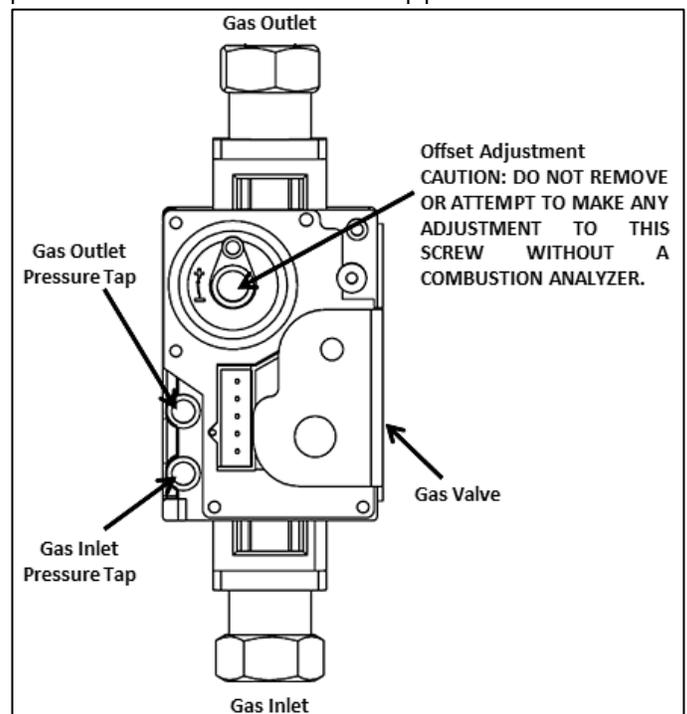

Figure 48 –Gas Valve Detail
NOTE: Refer to Figure 48 when adjusting gas pressure. Loosen the screw before checking the gas inlet pressure.
3. Loosen the gas inlet pressure tap screw three turns a screwdriver. Connect the manometer to the inlet gas pressure port. See Figure 48.